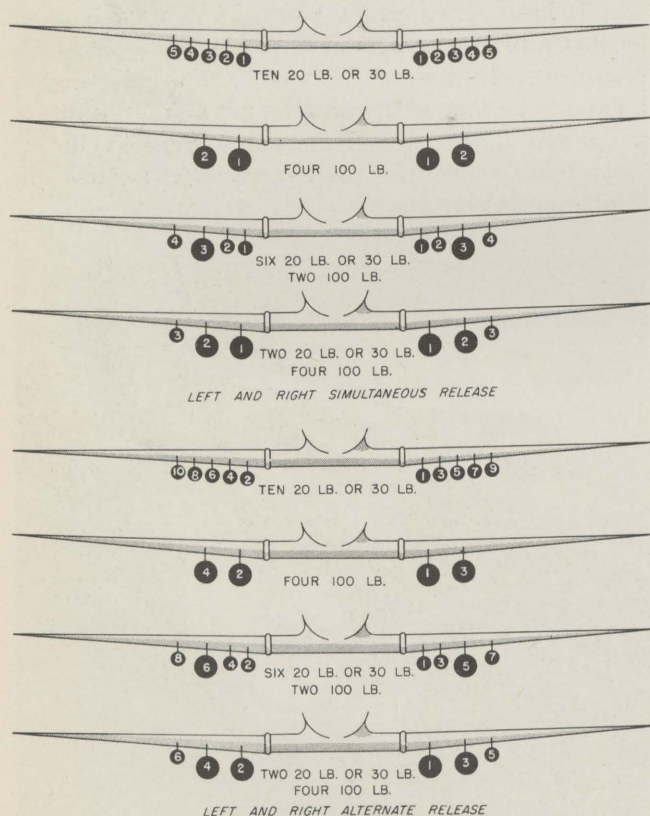

FIG. 18—BOMB LOADING DIAGRAM
b. SELECTIVE RELEASE (See figure 18.)—To drop bombs selectively, proceed as follows:
(1) Move the bomb release handle, located on the bomb control quadrant in the front cockpit to the SELECTIVE position. The knob on the release handle must be depressed to release the handle for movement.
(2) Select the rack (LEFT or RIGHT, or LEFT and RIGHT) to be used by turning ON one or both of the BOMB SELECTOR switches on the front cockpit electrical control panel.
(3) Place the BOMB SAFETY switch, on the pilot's electrical control panel, in the ON position.
(4) Press the bomb release button on the control stick to release the bomb or bombs. Bombs are released in a definite order, from inboard to outboard and simultaneously on each side of the airplane when both racks are used together. Bombs may be selected for alternate release from each side of the airplane by moving the BOMB SELECTOR switch to ON and OFF alternately.